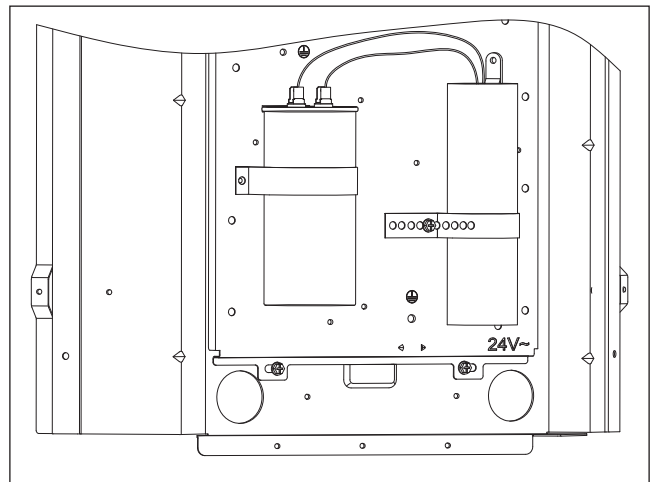

Figure 2
STEP 5- Connect two wires from FXMTM-6 in parallel with run capacitor as illustrated (Figure 2)